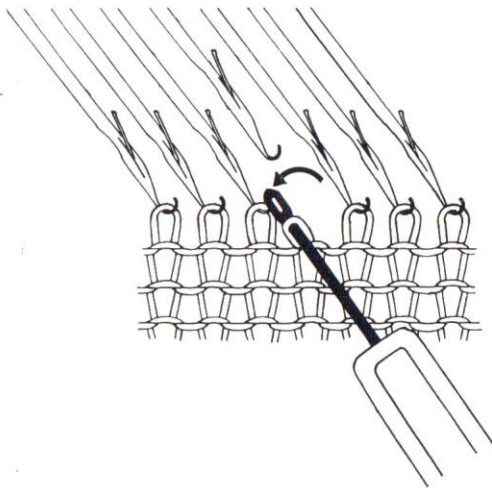

Fig. 24
- (3) Raise the transfer tool with the stitch on it and transfer it to the adjacent needle as shown by arrow. (See Fig. 24)